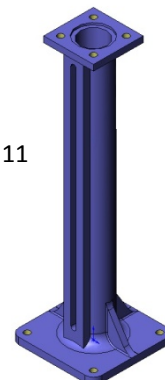

fig. 11
- Straight floor stands (fig. 11)